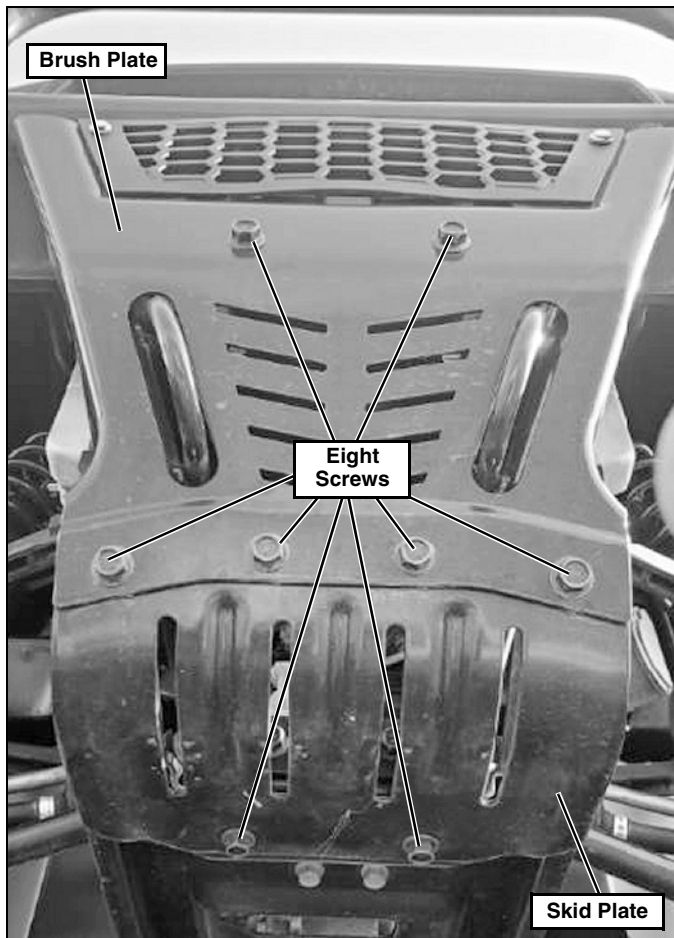

Figure 1
1. Temporarily uninstall the Skid Plate and Brush Plate by removing the eight screws screw holding them in place. (See Figure 1.)